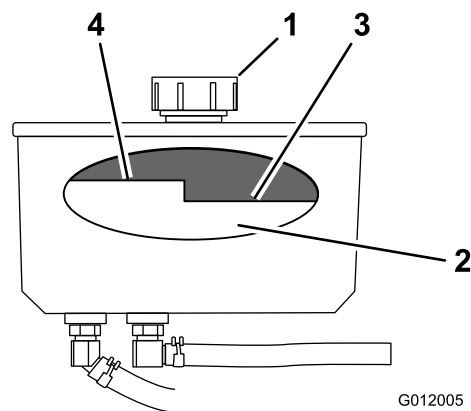

Figure 71
3. Clean the area around the cap and the filler neck of the hydraulic tank (Figure 71).
4. Remove the cap from the filler neck (Figure 71).
**Note:** The fluid level should be below the hot level of the baffle when the fluid is warm (Figure 71).